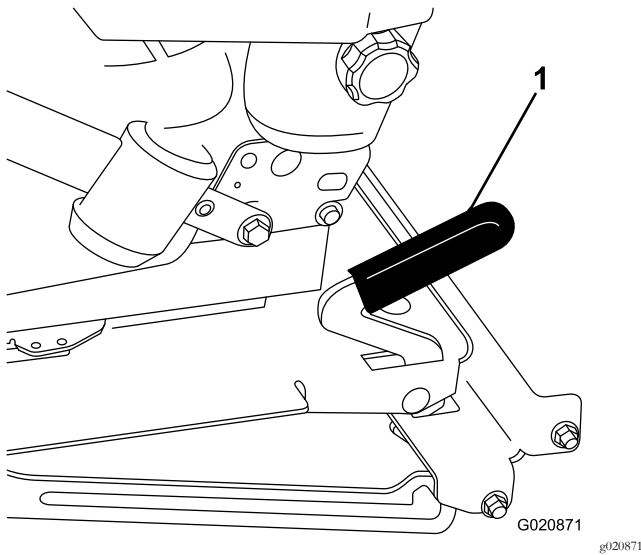

Figure 33
2. Pull the seat latch lever forward and lift up to unlatch the seat (Figure 33).